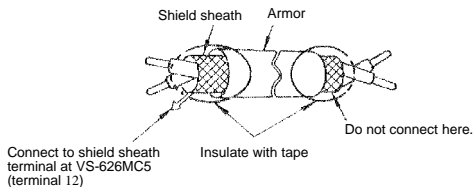

Fig 3.21 Processing the Ends of Twisted-pair Cables
- Use twisted-pair or shielded twisted-pair cables for control circuits to prevent operating faults. Process cable ends as shown in *Figure 3.21*.